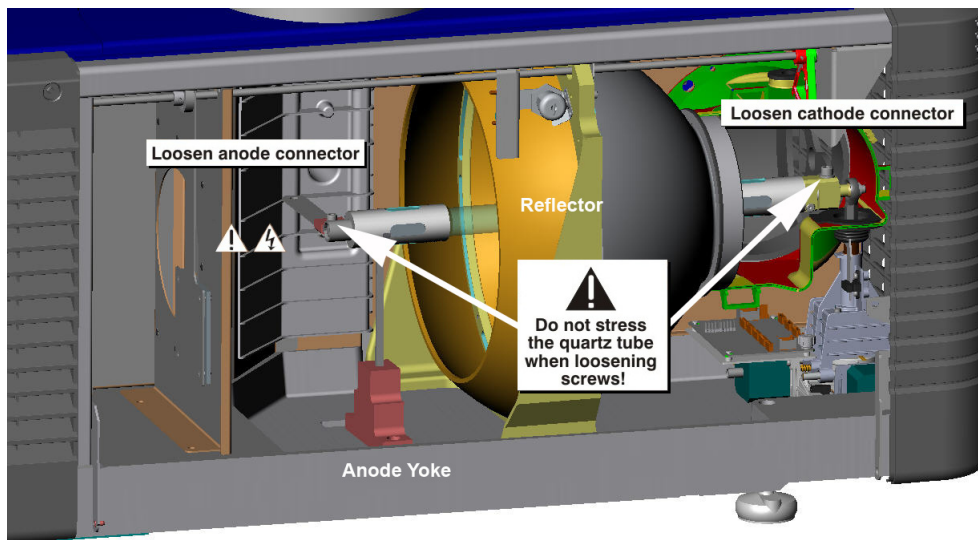

Figure 7-1 Removing the Lamp
5. Loosen set screws from the negative cathode and the positive anode lamp connectors. Make sure to apply minimal torque and DO NOT STRESS the quartz tube. (Figure 7-1).